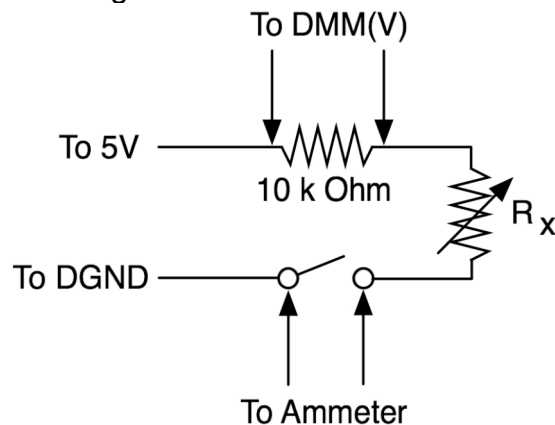
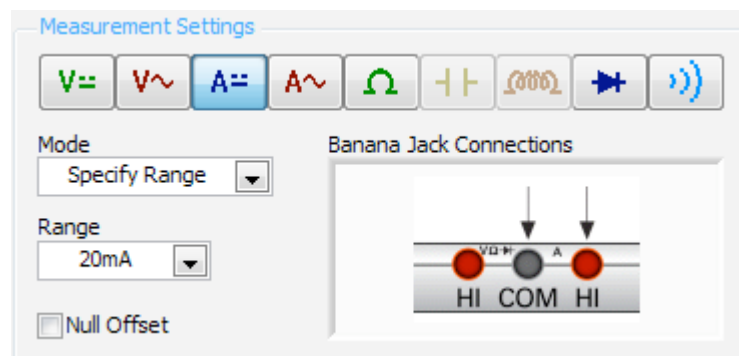
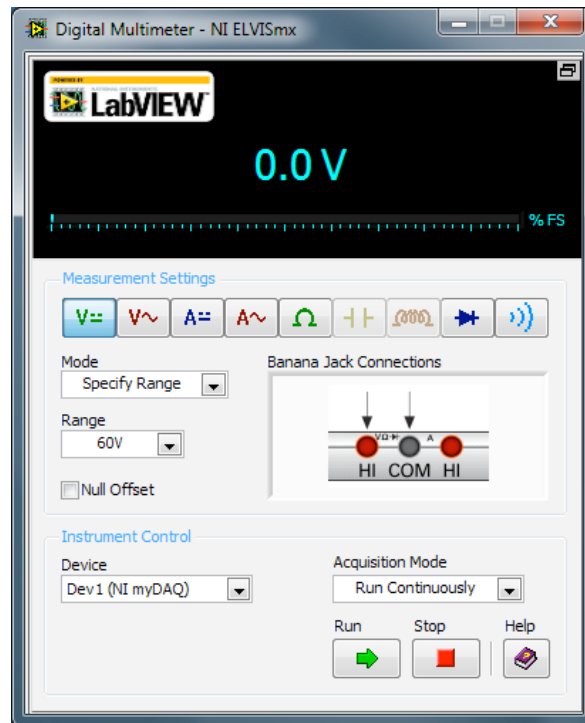

Fig. 3 Voltage Divider Circuit
Fig. 4 Measurement Settings for DMM Configured as an Ammeter
Fig. 5 Measurement Settings for DMM Configured as a Voltmeter
From the NI ELVISmx Instrument Launcher strip, select DMM. The default function voltage measurement DMM(V) pops up in a new window (see Fig. 5).
Next connect leads from the myDAQ banana jack connections (Fig. 4) to your circuit (Fig. 3).
Change the myDAQ banana jack leads to the voltage positions (Fig. 5). In the circuit of Fig. 3, replace the probe leads with wire as a short (bypass). Place the voltage probe leads across a 10 k Ω resistor.
Our voltage divider circuit in Fig. 3 outputs a voltage V_x across the resistor pot given by
Reconfigure the probes in Fig. 3 to measure the voltage across the resistor pot.